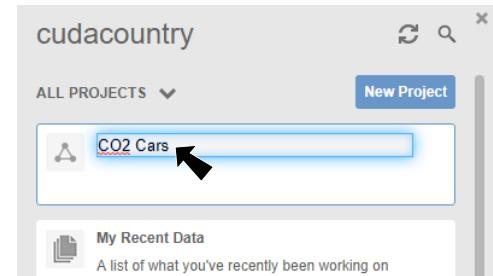

Fig. 9
Step 3. For Project Name key-in **CO2 Cars** and press ENTER, Fig. 9. Double click the CO2 Cars Project Name to enter project.